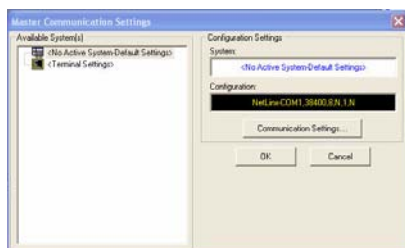

FIG. 38 Master Communications Settings dialog
2. In *NetLinx Studio*, select **Settings > Master Communication Settings** from the *Main* menu to open the *Master Communication Settings* dialog (FIG. 38).